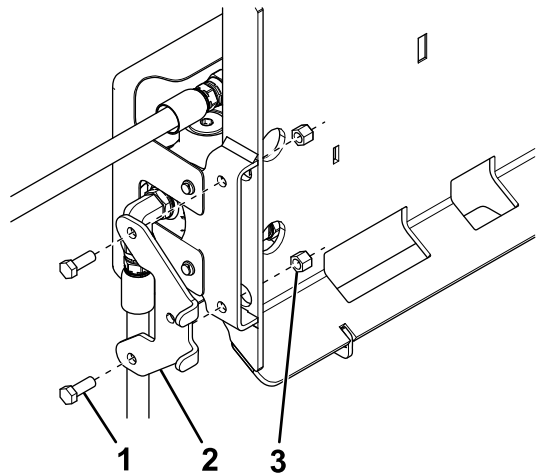

Figure 5
1. Secure the hose mount bracket to the left side of the spreader frame using 2 bolts (3/8 inch) and 2 nylon locknuts (3/8 inch) as shown in Figure 5.